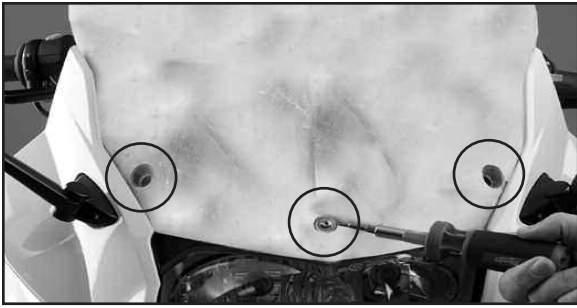

Figure 2
A. Remove the 3 stock M6 x 30mm Fillister Head Screws from the front of screen. These parts will not be re-used **(T25 Torx) Figure 2 and Diagram a**